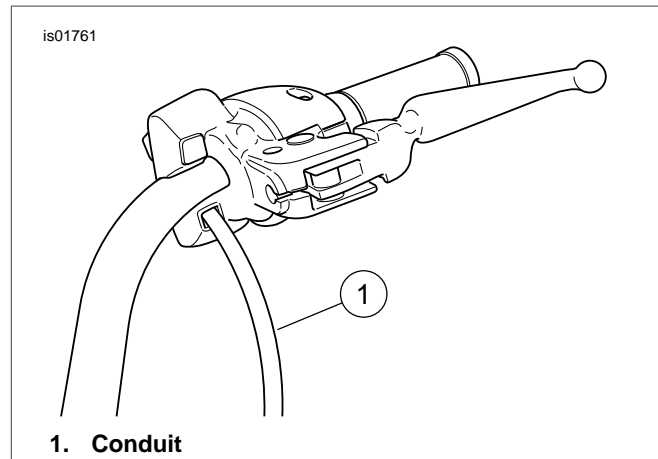

**Figure 2. Install Lower Auxiliary Accessory Housing**
See Figure 2. The lower housing must be installed with the drain holes (1) down.
4. See Figure 2. Install the lower housing (2) using two zinc-plated button-head screws (3) from the kit (or part number 3832M for 2004 and later XL models) and flat washers. Position the lever as noted earlier and tighten the screws to 60-80 in-lbs (8-9 Nm), using a 5/32 in. hex wrench.